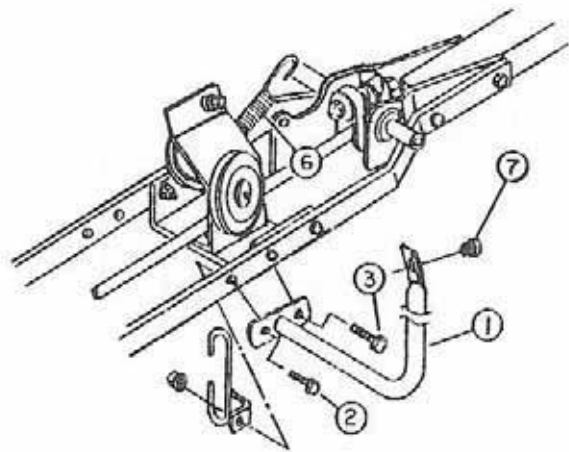

FIGURE 3
- d) Install the rotation support (fig. 3, item 1) on left hand side of subframe by using the existing bolts  $3/8 \times 1 1/4$ " (item 2 & 3), making sure the belt guide is  $90^\circ$  to subframe flatbar. Secure bolts with nuts. Insert plastic grommet (item 7) in rotation support (item 1).